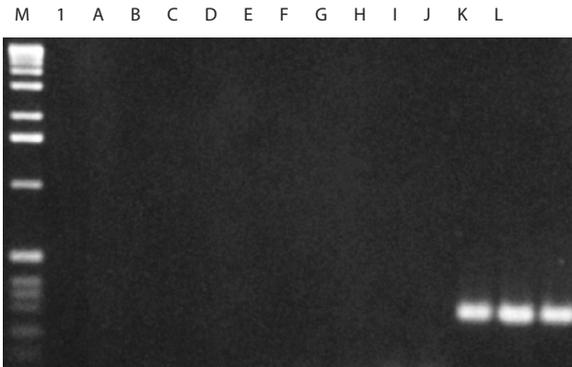

Figure 2. Amplification of a GC-rich template using the FailSafe™ PCR PreMix Selection Kit.
3. Analyze PCR results and choose the best FailSafe PCR PreMix for subsequent amplifications (see Fig. 2).
Twelve repeat amplification reactions of the *ApoE* gene from Fig. 2 were performed using FailSafe 2X PCR PreMix K. M, molecular marker.